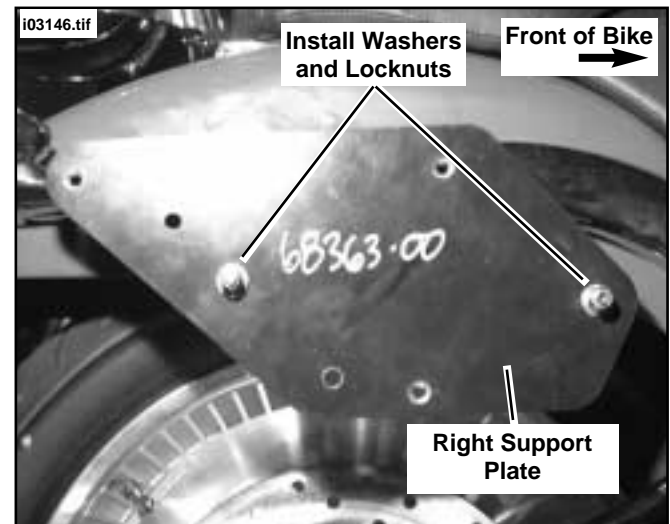

Figure 21. Install Right Saddlebag Support Plate
11. See Figure 21. Obtain the right saddlebag support plate (P/N 68363-00). While aligning plate (oriented as shown) (three pressed-in nuts towards fender), install plate onto bolts then install washer (P/N 6701) and lock nut onto each bolt. Use a wrench to keep bolts heads from turning and tighten lock nuts to 27 ft-lbs (36.6 Nm).